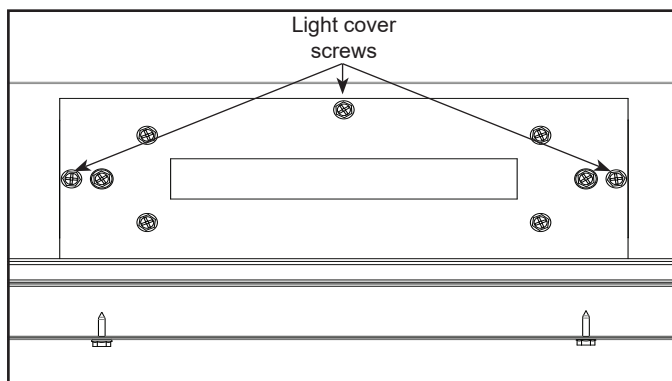

Figure 7.2– Dome Light Screws
1. Remove three screws holding the left dome light cover in place. See Figure 7.2.